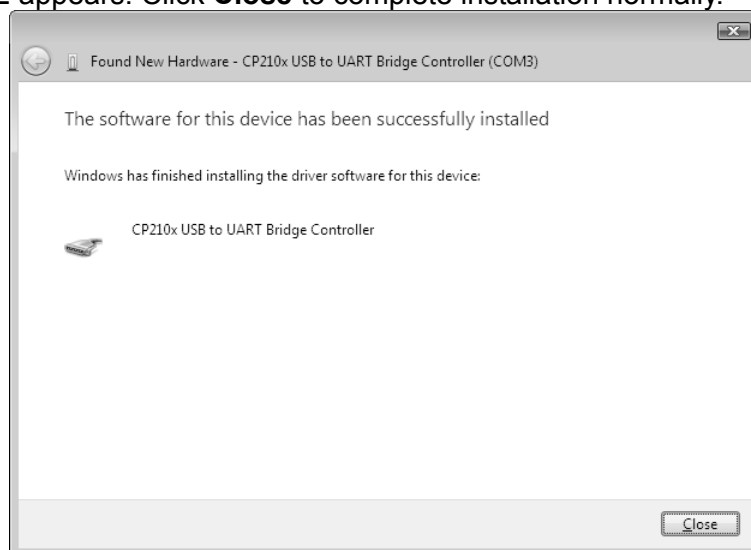

Fig. 52 Installation complete
- (15) Click **Next** to start installation of the driver. When the installation is completed, the screen shown in Fig.52 appears. Click **Close** to complete installation normally.